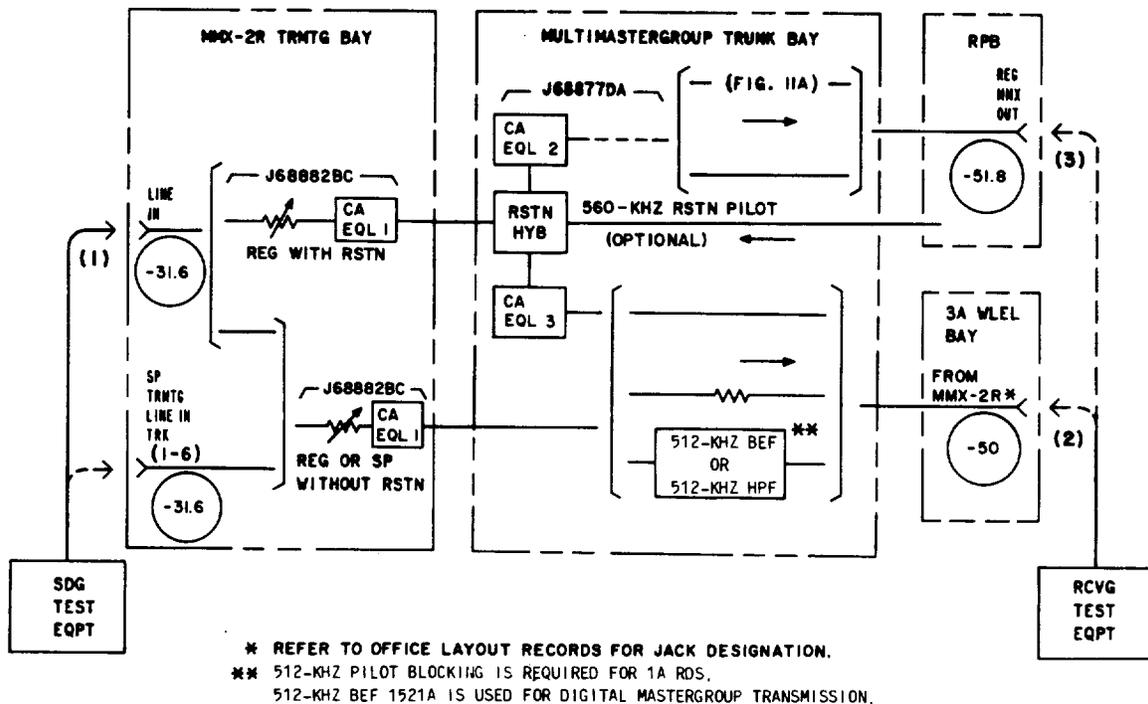

Fig. 1 — Transmitting Regular or Spare Radio Trunk Without Mastergroup Branching
Note: When signal tracing to locate trouble, remember that the band is flat only at certain jacks as indicated in Figures 1 through 10. The cable and/or cable equalizers slope the band at other points in the trunks.
- 4 Connect the STE to the LINE IN or SP TRMTG LINE IN TRK jack in the MMX-2R transmitting bay [patch (1), Fig. 1].
- 5 Connect the RTE to the appropriate **FROM MMX-2R** jack in the WLEL bay [patch (2), Fig. 1].
9	<p>Remove patch (2), Fig. 1.</p>
10	<p>Connect the RTE to the REG MMX OUT jack in the restoration patch bay [patch (3), Fig. 1]</p>
13	<p>Proceed to Step 14 if the requirement of Step 11 is met. Otherwise, continue signal tracing to locate and clear the trouble. Then repeat Steps 10 through 12, as required.</p> <p>Note 1: A zero-loss trunk (Fig. 9A) may be used in conjunction with this trunk. In this case, the zero-loss trunk should be tested as prescribed in Chart 9A. The zero-loss trunk is indicated in Fig. 1 by the designation Fig. 9A.</p> <p>Note 2: Chart 10 is a procedure for checking the 263A amplifier provided in earlier J68877DA panels.</p> <p>Note 3: Chart 11 is a procedure for checking the cable equalizers in the J68877DA and J68882BC panels.</p>